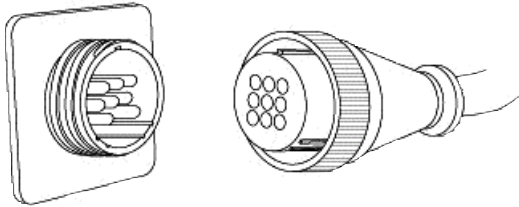
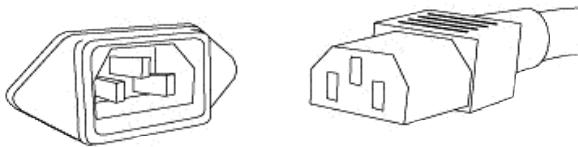

Figure 3 - Alignment of the DC power connector and cable.
Figure 4 - Alignment of the AC power connector and detachable cord.
Plug the Detachable Power Cord into this socket (see Figure 4). The Pre 1 is factory set for the correct operating voltage for the area in which it is sold (see shipping box for voltage setting). If a different operating voltage is required, please contact an authorized Sonic Frontiers or Anthem dealer, distributor or the factory directly.
This cord supplies power to the Pre 1 through connection to the DC Power Supply Input (K) (see Figure 3). THIS CORD IS NOT DETACHABLE FROM THE POWER SUPPLY.
Connect the DC Power Supply Cord (J) to the Pre 1 DC Input (K) (see Figure 3) before connecting the Detachable Power Cord to the Pre 1 Power Supply chassis (I) (see Figure 4). Plug your Pre 1 into the AC power source. Note: Never operate the Pre 1 Power Supply when not connected to the DC input on the main chassis.